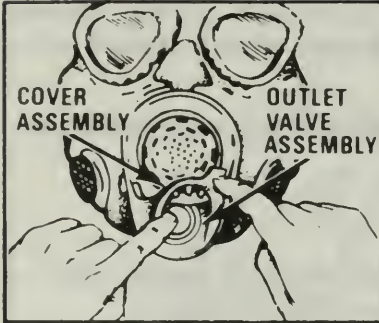

Figure 242.
5. Check the voicemitter-outlet valve assembly and voicemitter-outlet valve assembly cover for the following problems (Figure 242).